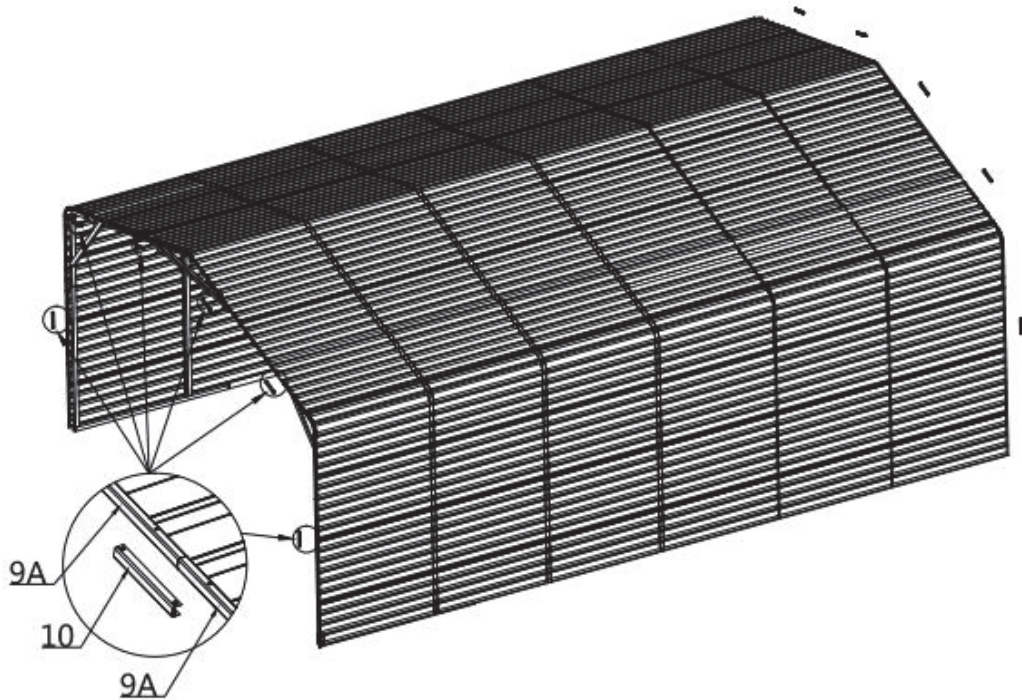

Figure 12
- Install the edge buckle (#10) and the two raised card points of the edge buckle are aligned with the square holes at the interfaces of the two color steel tile edge bands, and then press the buckle in place. The front and rear installation methods are the same (refer to figure 12).